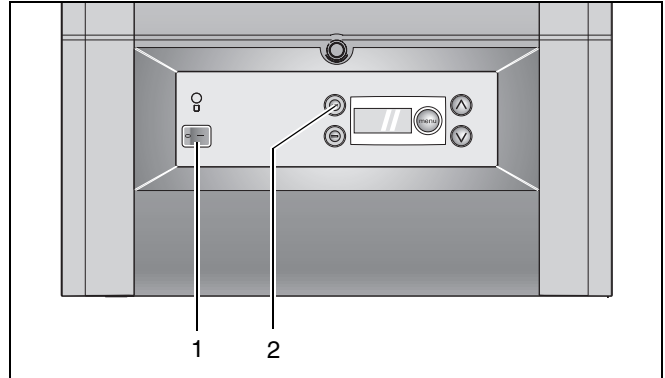

fig. 51 DBA front
- Take the boiler out of service by pressing the mains switch (fig. 51, item 1) to "0".
- Set the mains switch (fig. 51, item 1) to "1".
- Create a heat demand by pressing the service button "⊖" (fig. 51, item 2), until an open-end spanner "🔧" appears in the top left hand corner of the display.
- Turn mains power switch to "0" (fig. 51, item 1).
- Set the mains switch to "1" (fig. 51, item 1).
- Set mains power switch to "0" (see fig. 51, item 1).
- Turn the mains power switch to "1" (see fig. 51, item 1).
- Turn the mains power switch to "0" (see fig. 51, item 1).
- Set mains power switch to "1" (see fig. 51, item 1).
- Set the mains power switch to "0" (see fig. 51, item 1).
- Set the mains power switch to "1" (see fig. 51, item 1).